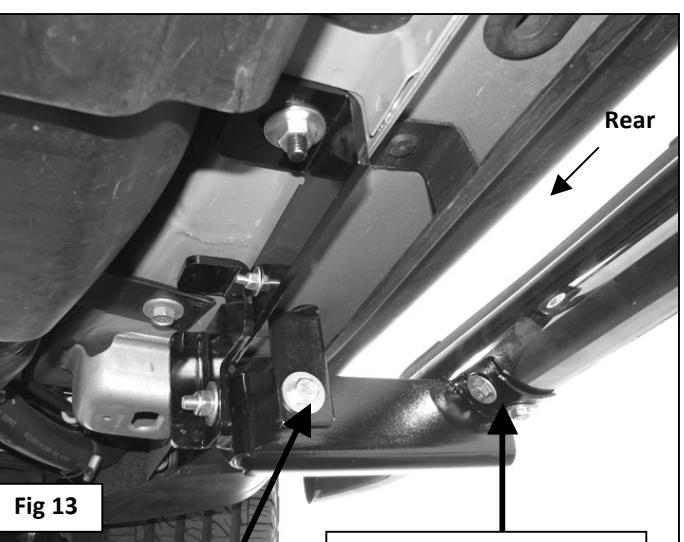

Fig 13
8. Select the left Sidebar and carefully place it in position on the (2) Mounting Brackets. Line up the threaded holes in the Sidebar with the slots in the Brackets and bolt it in place with the included (4) 8mm x 25mm Hex Bolts, (4) 8mm Lock Washers and (4) 8mm Flat Washers, (**Figure 13**). Snug all hardware but do not tighten at this time.